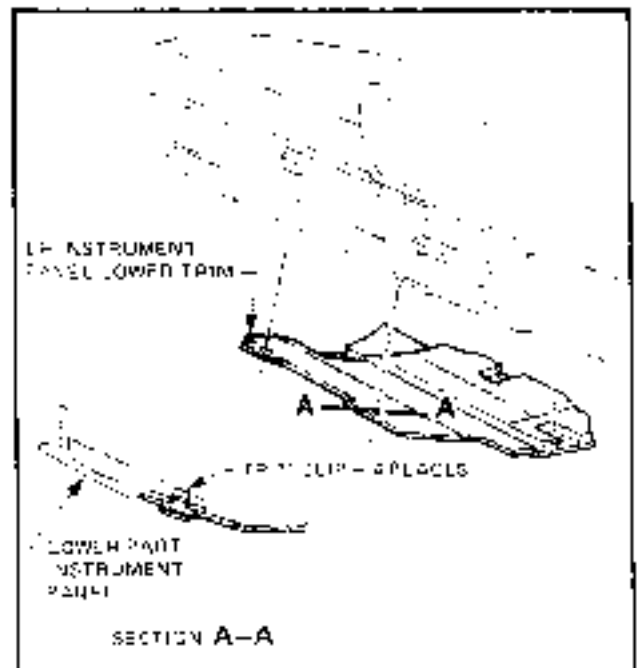

Figure 2A-10
3. From under the instrument panel, disengage the blower motor to main wiring harness connector then supporting the blower motor, remove the two screws securing the motor to the blower housing illustrated in Fig. 2A-11 removing the motor.